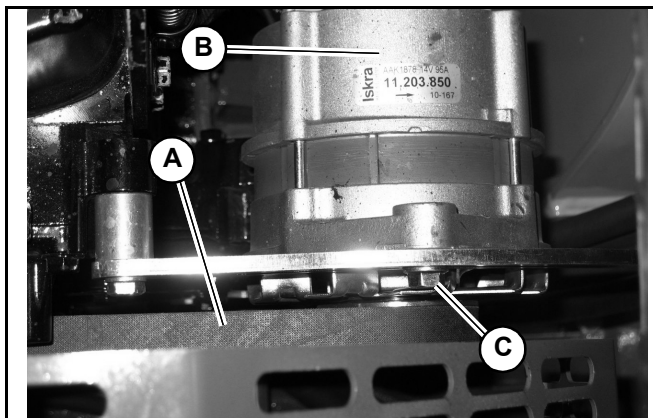

Fig. 93 – V-Belt
4. Inspect V-belt (A, Fig. 93) for damage. If damaged, have belts replaced by an authorized repair shop.